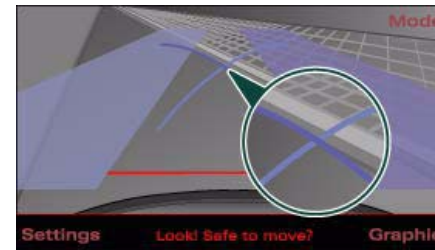

Fig. 163 MMI display: Blue marking touches edge of pavement
- Reverse into the parking space. If you are *not* parking next to obstacles ⇒ *page 150* the dark blue marking ④ should touch the kerb ⇒ *page 146*, fig. 163. Stop your vehicle.
The light blue ③ and dark blue ④ curves show you when to turn the steering wheel in the other direction, i.e. when the curve touches the kerb. ⇒ *page 146*, fig. 163.
fig. 163. You can use the control buttons to switch between the Rear View camera and Graphic display at any time as desired. The settings selected on the sound system or MMI remain stored.
You also have to steer in the opposite direction a lot earlier. This means that the blue curve ⇒ page 146, fig. 163 must not touch the kerb - make sure there is a sufficient distance to the kerb ⇒ ⚠.